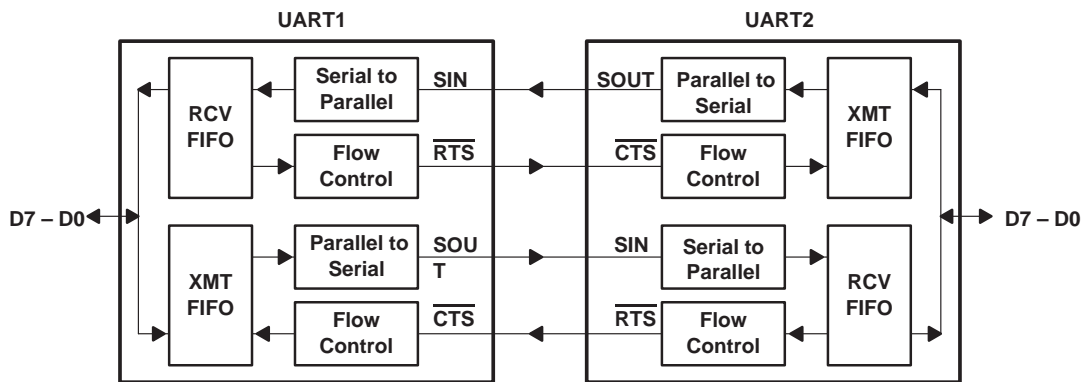

Figure 2-4. Example of Auto-flow Control (Auto- $\overline{\text{RTS}}$ and Auto- $\overline{\text{CTS}}$)
2.1.6.1 Auto-flow Control (See Figure 2-4)
Auto-flow control is composed of auto- $\overline{\text{CTS}}$ and auto- $\overline{\text{RTS}}$. With auto- $\overline{\text{CTS}}$, $\overline{\text{CTS}}$ must be low before the transmit FIFO register can emit data (see Figure 2-4). With auto- $\overline{\text{RTS}}$, $\overline{\text{RTS}}$ becomes high when the receiver is empty or the threshold has not been reached. When $\overline{\text{RTS}}$ is connected to the $\overline{\text{CTS}}$, data transmission does not occur unless the receiver FIFO register has empty space. Overrun errors are eliminated when UART1 and UART2 are TIR2000 or other autoflow control devices with enabled flow control. When UART1 and UART2 are not autoflow control devices with enabled flow control an overrun error occurs if the transmit data exceeds the data receive FIFO-read capacity.
2.1.6.2 Auto- $\overline{\text{RTS}}$ (See Figure 2-4)
2.1.6.3 Auto- $\overline{\text{CTS}}$ (See Figure 2-4)